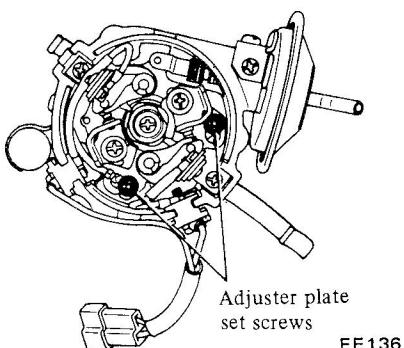

Fig. ET-25 Adjuster plate set screws
- (1) Referring to Figure ET-25, turn out adjuster plate set screw 1/2 to 2 turns. The screw is located at contact set on retard side.
- (2) Using a notch in adjuster place as a hold, turn adjuster plate as required until correct delay is obtained. Ignition is retarded when plate is turned counterclockwise.